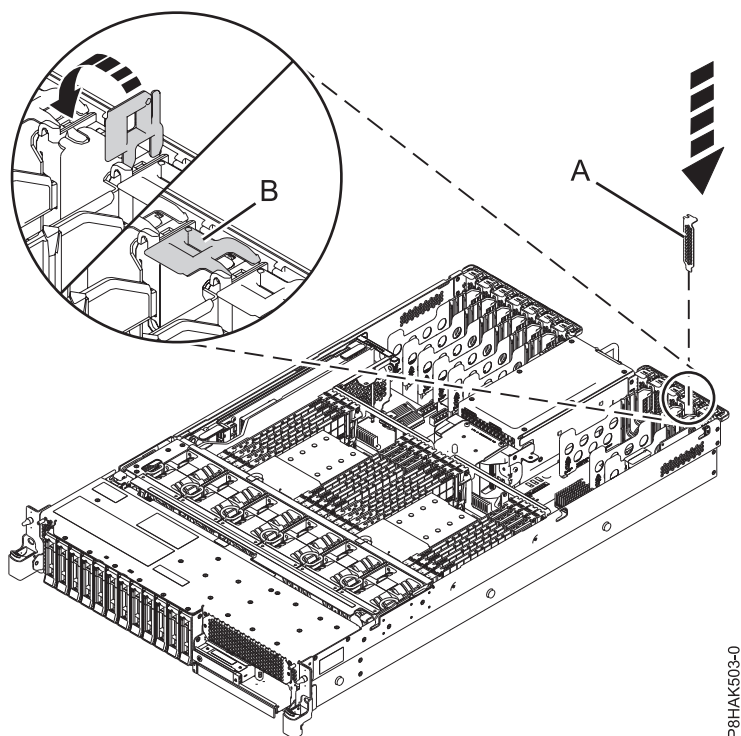

Figure 27. Installing a filler in a PCIe adapter slot in a 5148-21L, 5148-22L, 8247-21L, 8247-22L, 8284-21A, or 8284-22A system
- a. Carefully grasp the filler tailstock and align the filler with the slot and its connector on the system backplane, as shown in Figure 27.